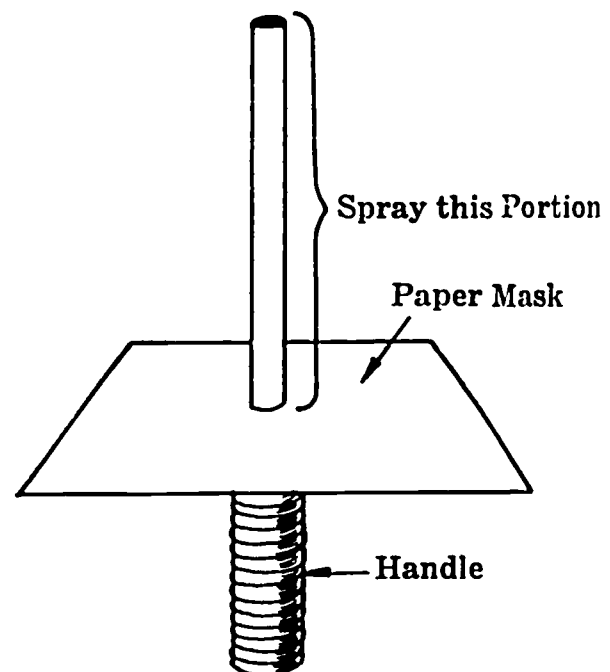

Fig. 67-1. Mask for Spray Coating Handle
- Place the paper mask on the handle until it rests on top of the corded portion. See Fig. 67-1.